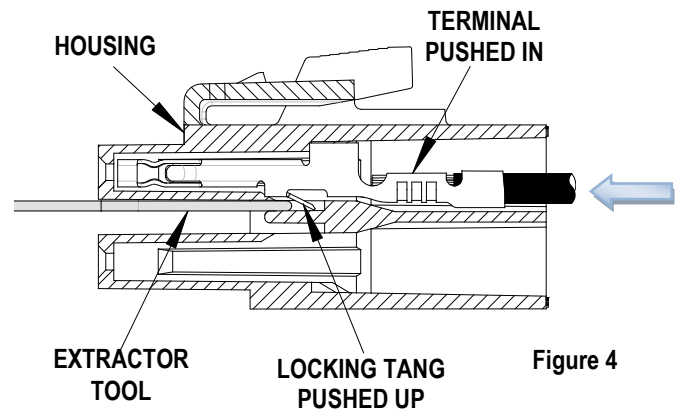

Figure 4
1. Push the terminal forward in the arrow direction before using the Extractor Tool as shown in Figure 4.
3. Pull the terminated wire out. See Figure 4.